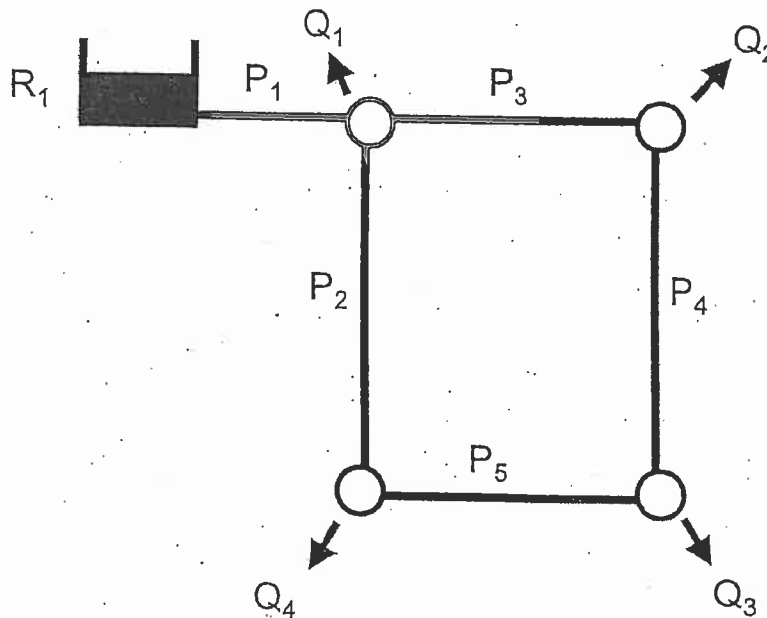

Figure 3. Water network with fixed-head reservoir.
3. The 5-pipe water distribution network shown in Figure 3 has a fixed-head reservoir ( $R_1$ ) with water level of 70 m. The pipe ( $P_1$ ) that connects the fixed-head reservoir to the rest of the network is 100 m in length, and has an inner diameter of 610 mm and a 'C' factor of 140. Pipes 2 to 5 have the following parameters: length = 500 m, Hazen-Williams 'C' factor = 130, and inner diameter = 203 mm. Node 1 is at elevation 5 m, Node 2 at elevation 10 m, Node 3 at elevation 25 m and Node 4 at elevation 15 m. Demand at Node 1 is  $Q_1 = 50$  L/s, demand at Node 2 is  $Q_2 = 23$  L/s, demand at Node 3 is  $Q_3 = 18$  L/s, and demand at Node 4 is  $Q_4 = 17$  L/s.